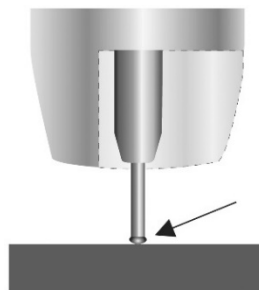

Fig. 28
1. The wire approaches the workpiece and touches the work creating a short-circuit between the wire and the base metal, because there is no space between the wire and the base metal there is no arc and current flows through the wire (Fig. 28)